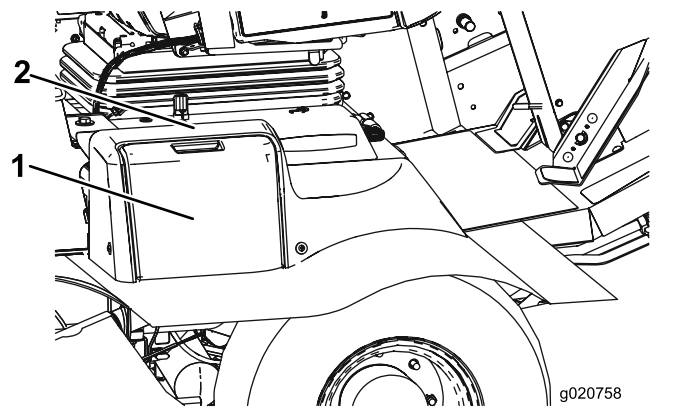

Figure 83
1. Open the battery cover on the side of the shroud (Figure 83).
Note: Press down on the flat surface above the battery cover to ease the removal of the cover (Figure 83).